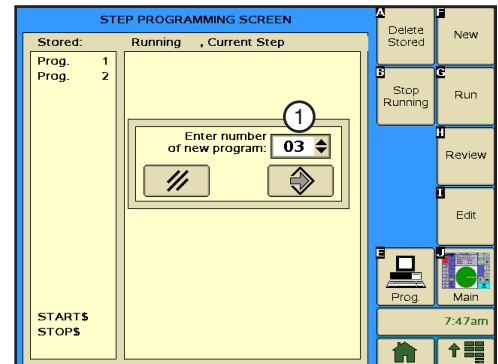

Figure 137-1 1. New Program Number Field
1. Push **Prog.** and **Step Prog.** to view the Step Program screen. Refer to Figure 137-1.